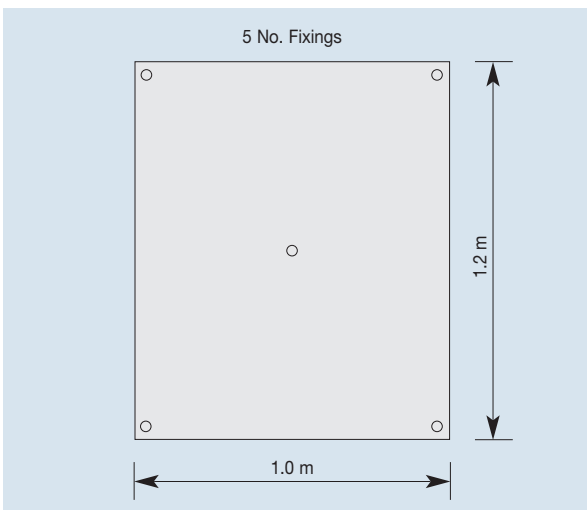

Figure 2 Typical Mechanical Fixing Pattern
*Kingspan Kooltherm® K11 Roofboard* is generally secured to metal decks using mechanical fixings and washers (see Figure 2).
*Kingspan Kooltherm® K11 Roofboard* can be secured using mechanical fixings and washers (see Figure 2), or adhered using hot bitumen or proprietary adhesive systems, as preferred. Regardless of the method employed concrete decks should be clean, dry, without large projections, steps or gaps and should be graded to allow the correct falls to all rainwater outlets.
*Kingspan Kooltherm® K11 Roofboard* is generally secured to plywood decks using mechanical fixings and washers (see Figure 2).
Generally, *Kingspan Kooltherm® K11 Roofboard* is secured using mechanical fixings and washers (see Figure 2).
Boards are generally secured using mechanical fixings and washers (see Figure 2).
The requirement for additional fixings should be assessed in accordance with BS 6399-2: 1997 (see Figure 2).